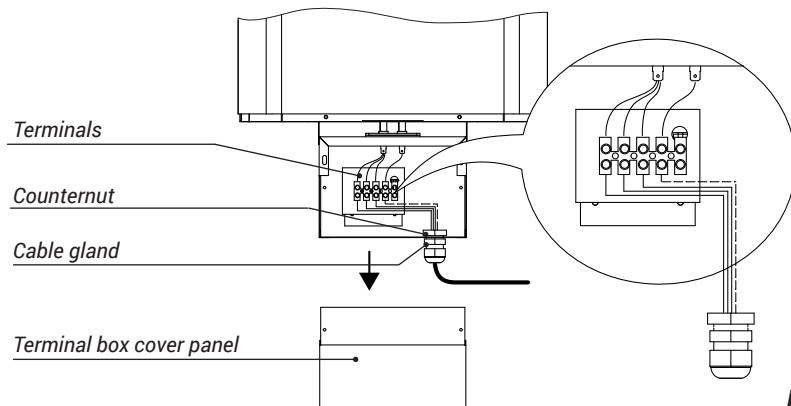

Fig. 5
- Electrical connection shall be made as per Fig. 5 and connection example.